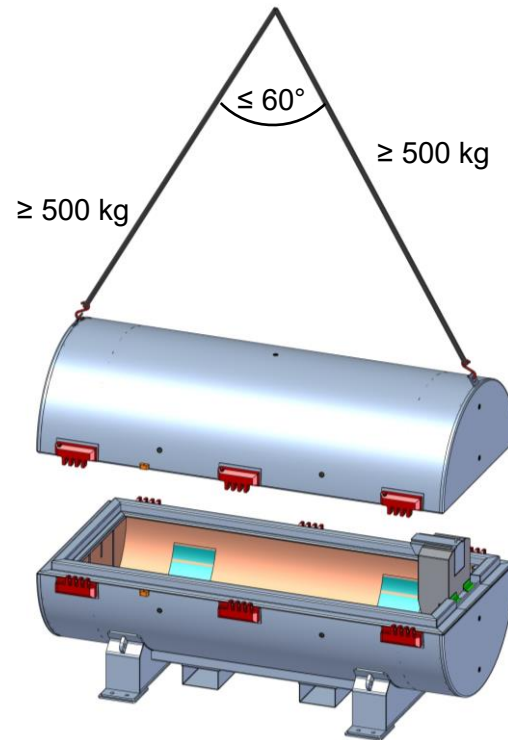

Figure 8: Lifting Lugs for Lifting the Top Half
For lifting its top half, the DN30 PSP is fitted with two lifting lugs welded to the surface of the top half of the DN30 PSP as shown in Figure 8. The lifting lugs at the top half are allowed to be used only for handling of the top half as is printed on both front faces of the DN30 PSP (see Figure 5). Additionally, the lifting lugs at the top half have to be rendered inoperable during transport to avoid incorrect use.
- The angle between the slings has to be 60° or less, as shown in Figure 8.